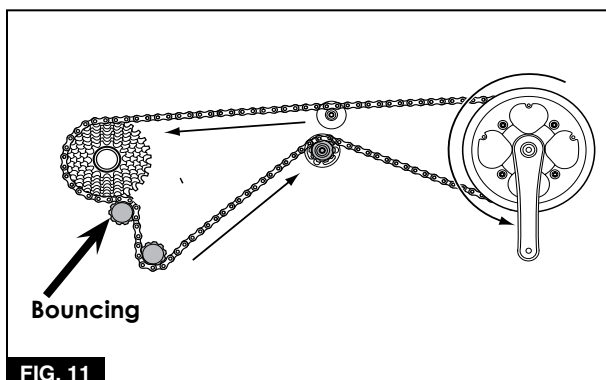

FIG. 11
c. Back-pedal, and check for bouncing at the guide pulley (**Figure 11**). The B-screw is too loose if bouncing is noticed.